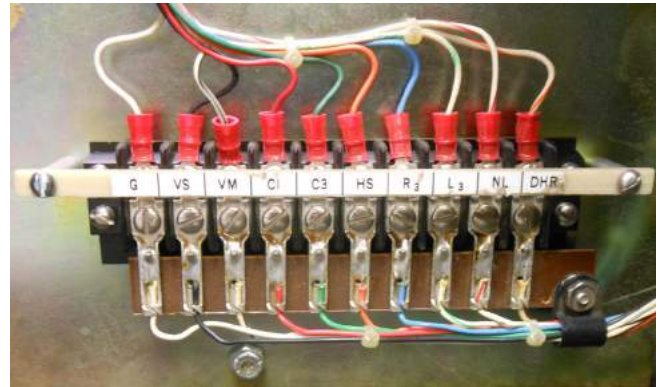

Figure 8. Obsolete 10-position terminal board to be replaced
2. If the control box contains a 10-position TB1 terminal board (see **Figure 8**), it must be upgraded to an 18-position board. See document MN225019EN, *Back Panel Upgrade 10- to 18-Position Terminal Strip Installation Instructions* for instruction on installing the 18-position terminal board.